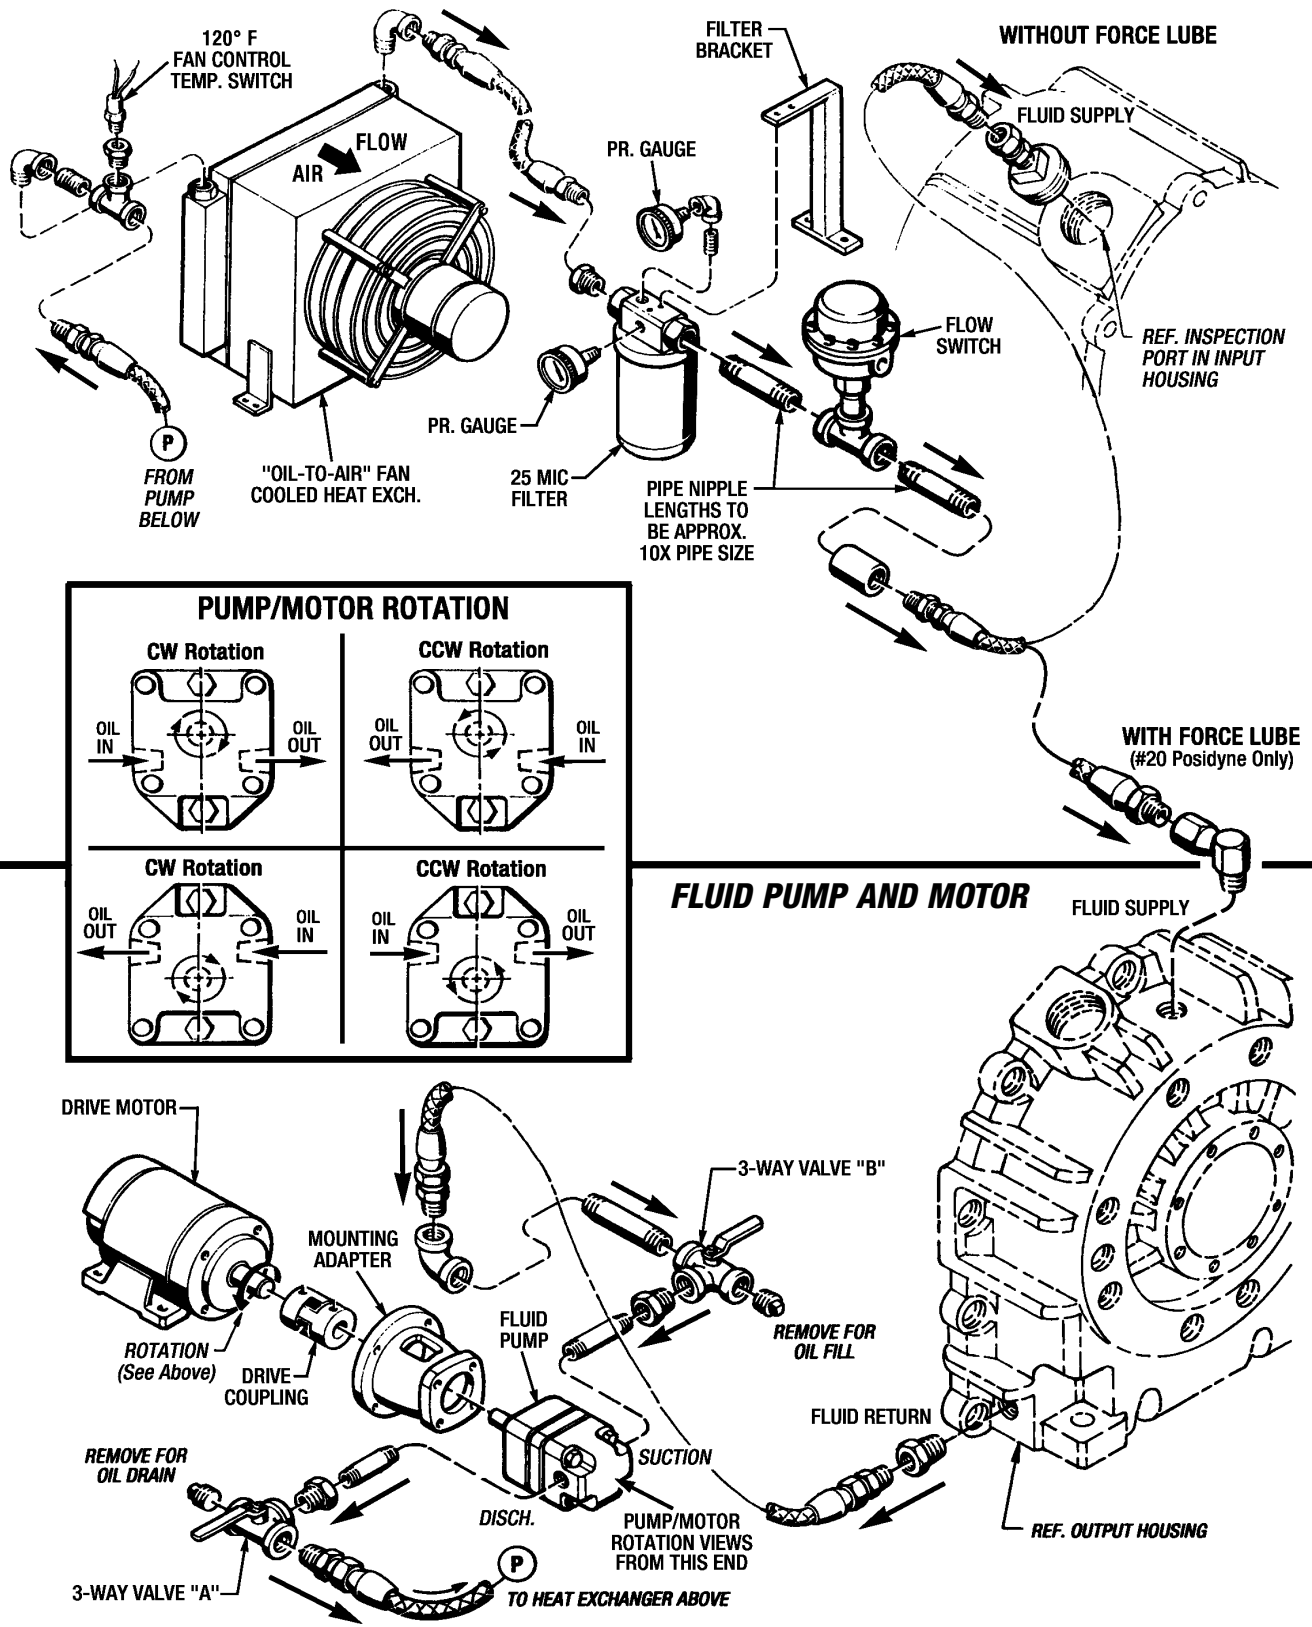

Figure 7 - External Cooling System
1. Connect the oil supply line to the *Posidyne* from the Flow Switch. (See Figure 7)
3. Bump cooling oil pump motor and check rotation with arrow on pump mounting bracket (See Figure 7). To reverse the direction of rotation of a three-phase motor, interchange any two of the line wires to the motor leads. Start the cooling oil pump to purge air out of the lines and components of the cooling system. Stop the motor and allow oil to drain back to the sump. Check out level and add oil as required. Weekly thereafter (until experience dictates otherwise) check the oil level. When the drive is stationary the oil level should be at the full mark.